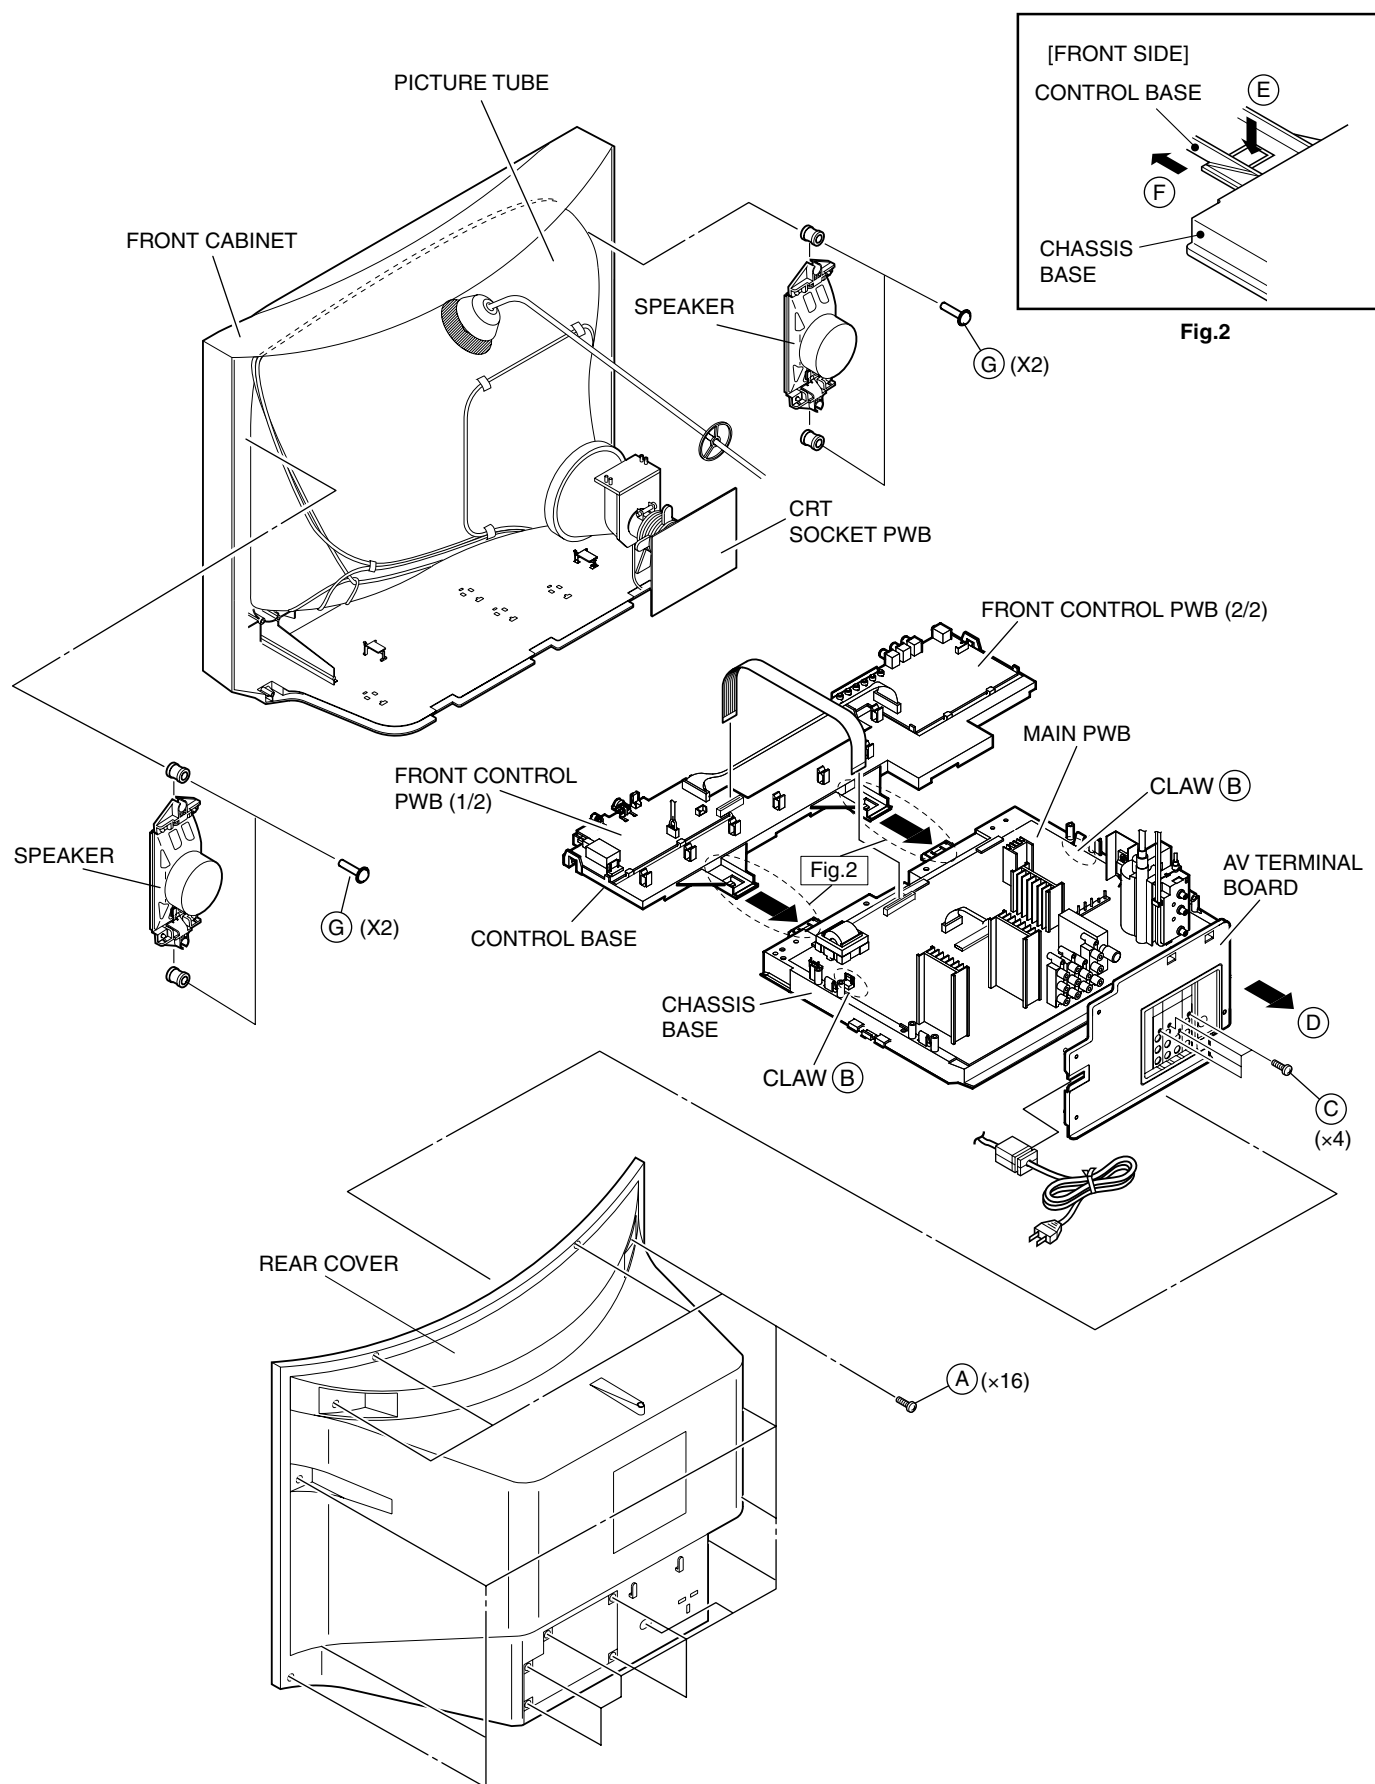

Fig.1
1. Slightly raise the both sides of the chassis by hand and remove the 2 claws marked ㉒ under the chassis from the front cabinet as shown in Fig.1.
1. Remove the 4 screws marked ㉓ as shown in Fig.1.
2. When you pull out the AV Terminal board in the direction of arrow marked ㉔ as shown in Fig.1, it can be removed.
1. Remove the 2 screws marked ㉗ as shown in Fig.1.